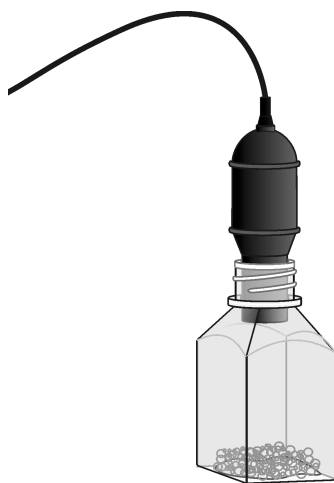

Figure 1
- e. Place the O₂ Gas Sensor into the bottle as shown in Figure 1. Gently push the sensor down into the bottle until it stops. The sensor is designed to seal the bottle with minimal force.